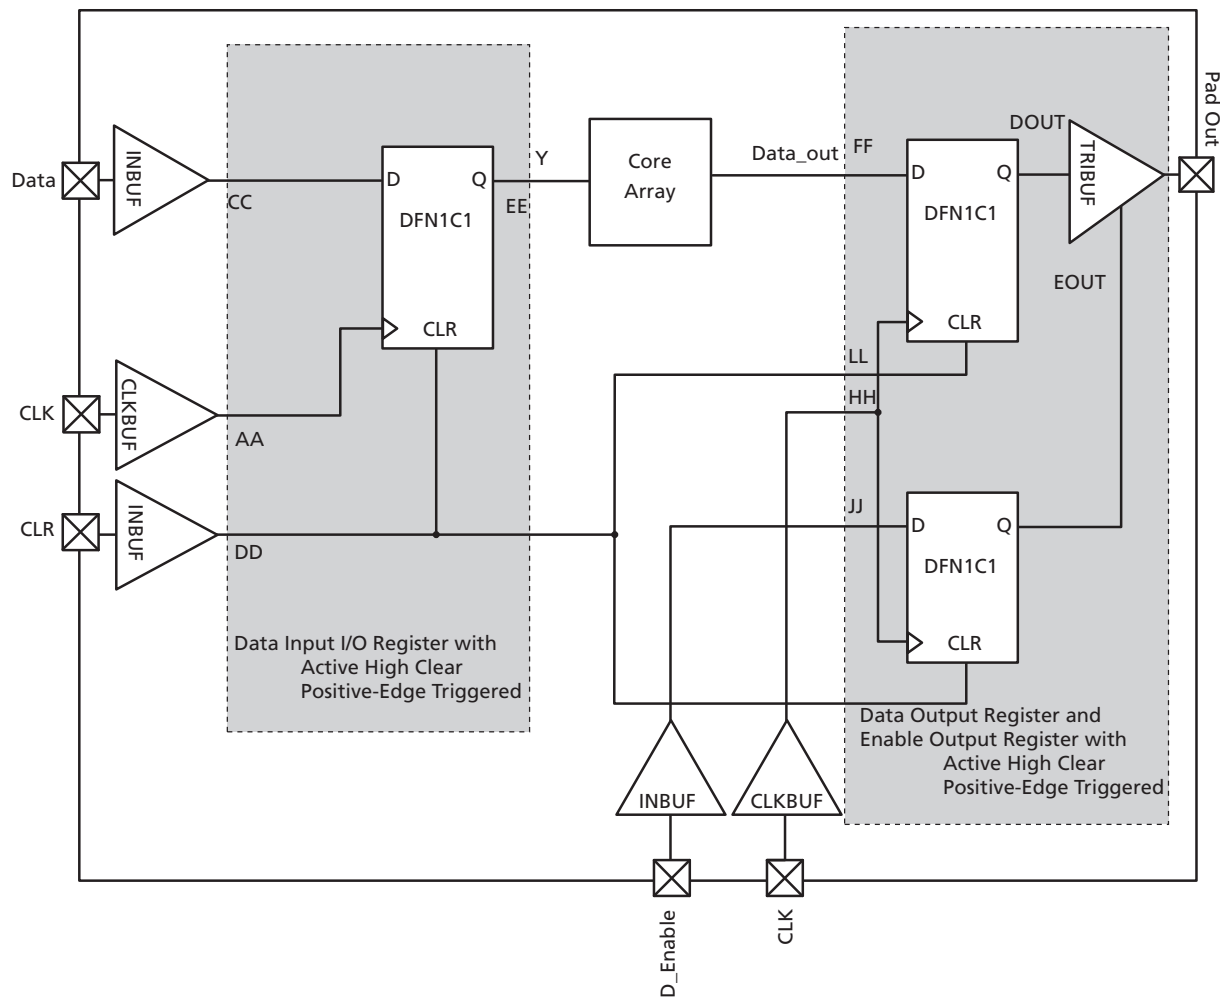

Figure 2-13 • Timing Model of the Registered I/O Buffers with Asynchronous Clear
* See Figure 2-13 on page 2-43 for more information.